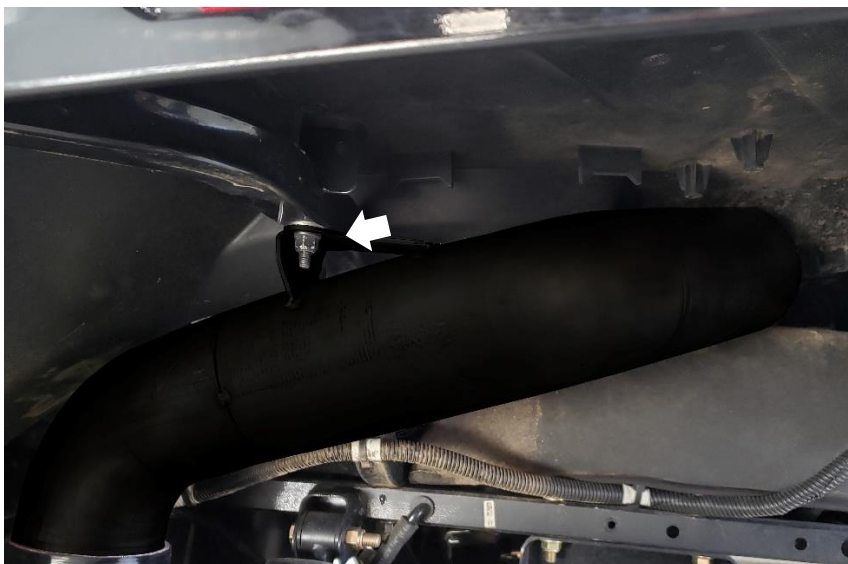

Figure 2
3. Remove the nut from the frame on the underside of the rear deck (the screw will need to be held from the topside of the deck). **Refer to Figure 2.**
**Refer to Figure 2.**
4. With the second **Hose Clamp** placed over the inlet end of the **Vent Tube**, insert the **Vent Tube** into the **Hose Coupler**. Position the **Vent Tube** to align the mounting bracket hole with the screw from the rear deck. Replace the nut to hold the **Vent Tube** in place, but do not fully tighten it. **Refer to Figure 2.**